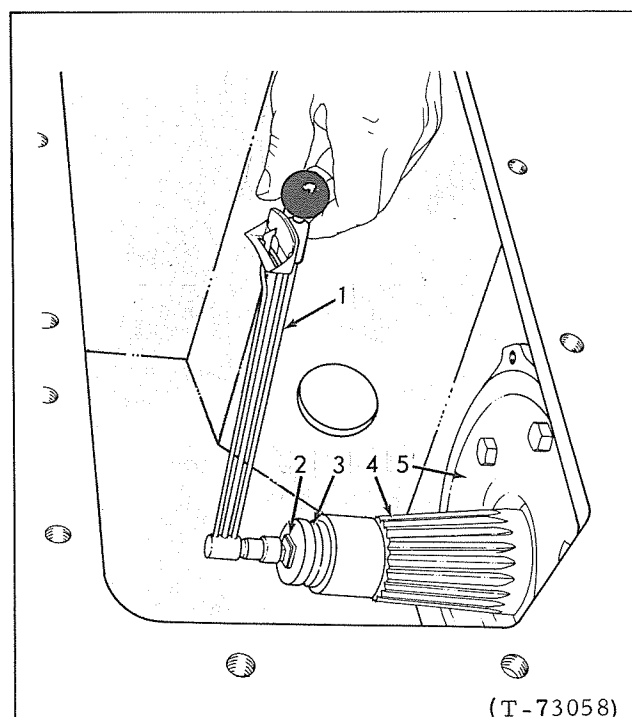

FIG. 59 CHECKING PRE-LOAD OF BEVEL GEAR SHAFT BEARINGS
- b. Refer to Fig. 59, turn bevel gear shaft with pounds inch indicating torque wrench to determine pre-load on bearings; specified pre-load is 10 to 20 lbs. in (.003" - .004" tight) (11.52-23.04 kg-cm (.076-.101mm tight)).